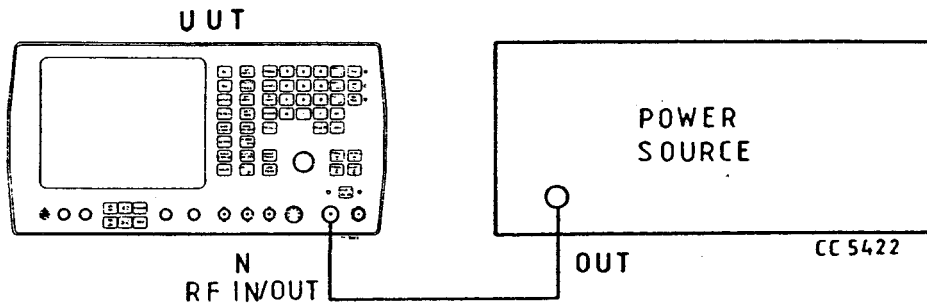

Fig. 41 Test equipment connections for adjusting R106 on AB5
- (1) Connect the equipment as shown in Fig. 41, where the power source is a calibrated one formed from the equipment shown in Fig. 18.
- (2) Set the u.u.t. to TX, N-type input socket.
- (3) Set the power source to give 220 mW at 100 MHz
- (4) Note the power reading on the 2955 display. Repeat for the frequencies shown in Table 7a noting the power reading on the 2955 for each frequency.
- (5) If the power readings are all low or all high, it will only be necessary to adjust R106 to optimize.